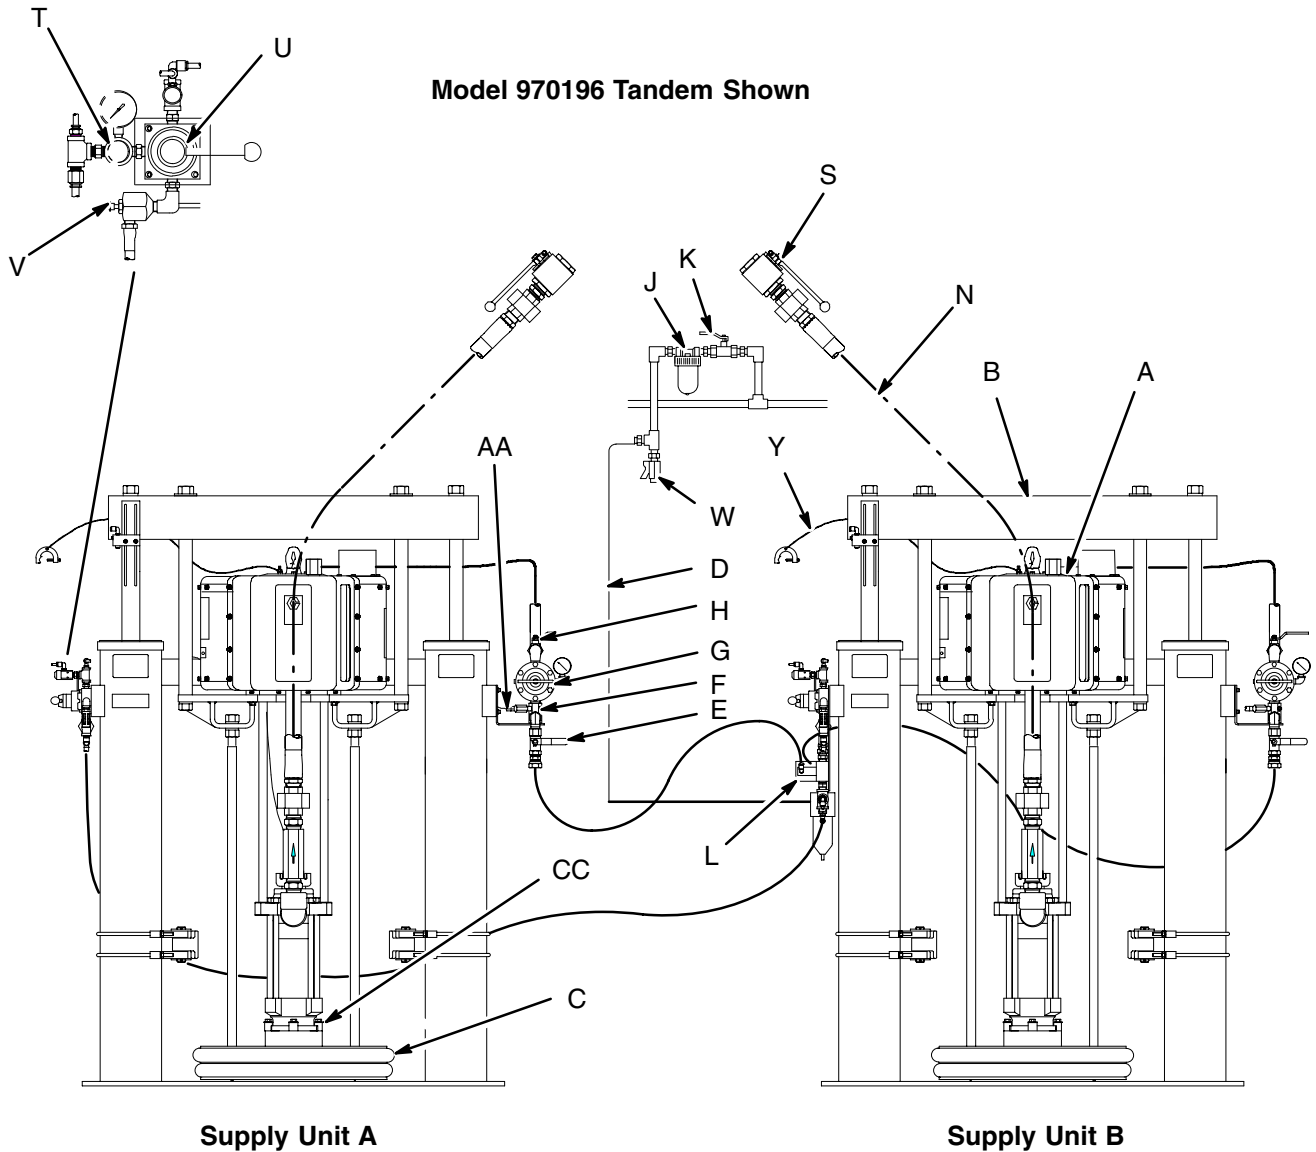

Fig. 1
System 970198 is a single 55 gallon supply unit with a low-level shutoff. See Fig. 1.
Be sure all air hoses (D) and fluid hoses (N) are properly sized and pressure-rated for your system. Use only electrically conductive hoses. See Fig. 1.
2. Close dispenser ball valves (S). Unhook ball valves from system. See Fig. 1.
3. Close pump air bleed valve (H, required in your system). See Fig. 1 or Fig. 6.
4. Shut off main air bleed valve (E, required in your system). Set ram director valve (U) to DOWN. Ram will slowly drop.